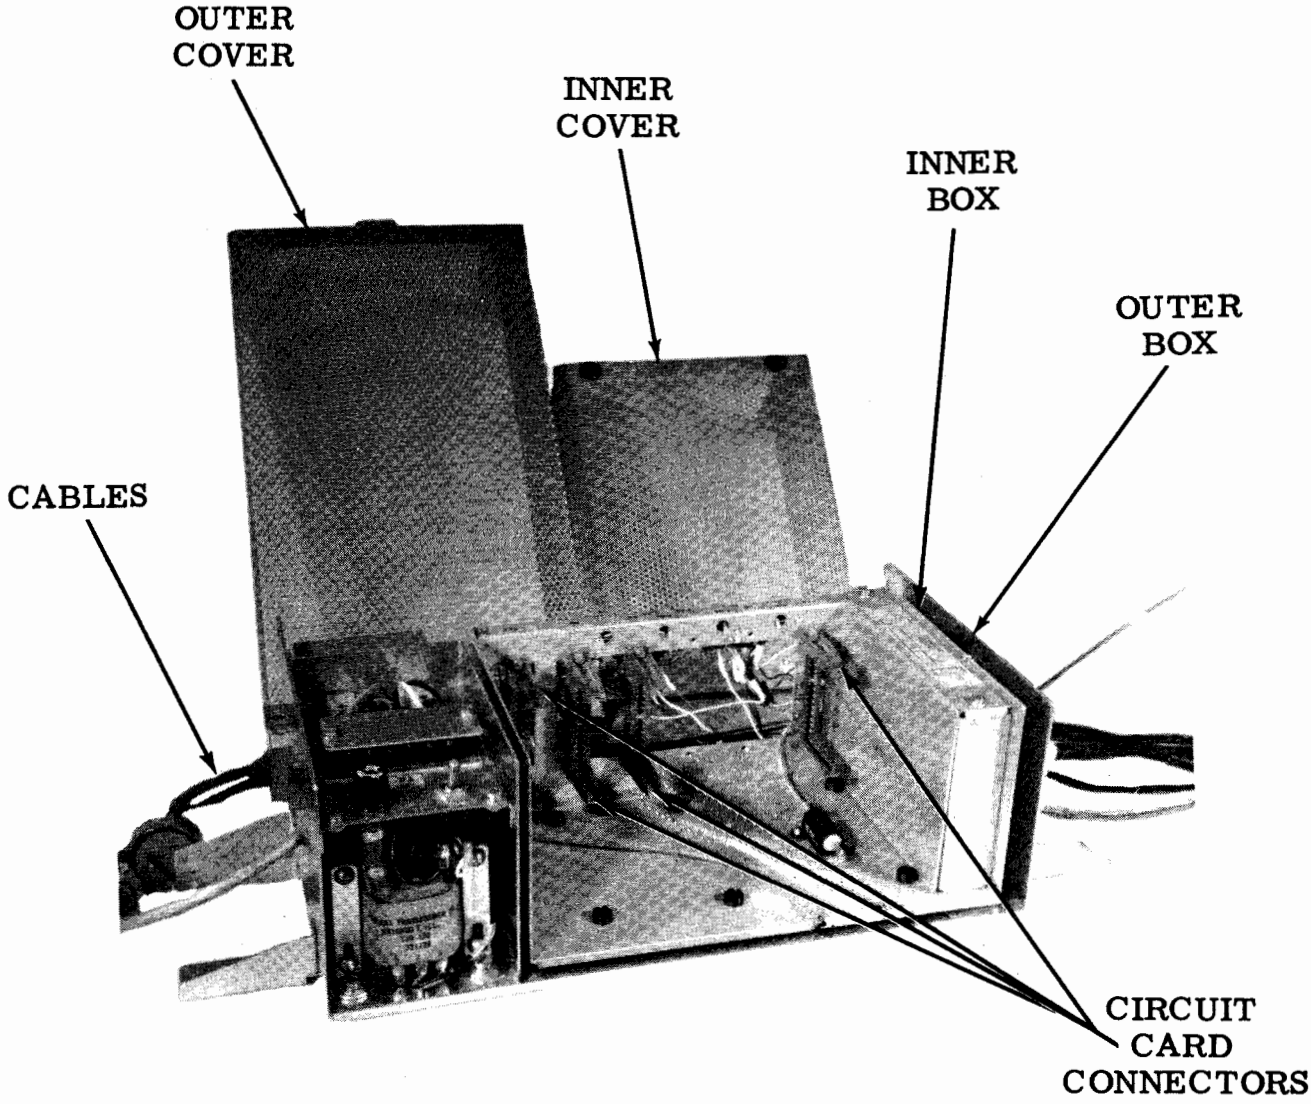
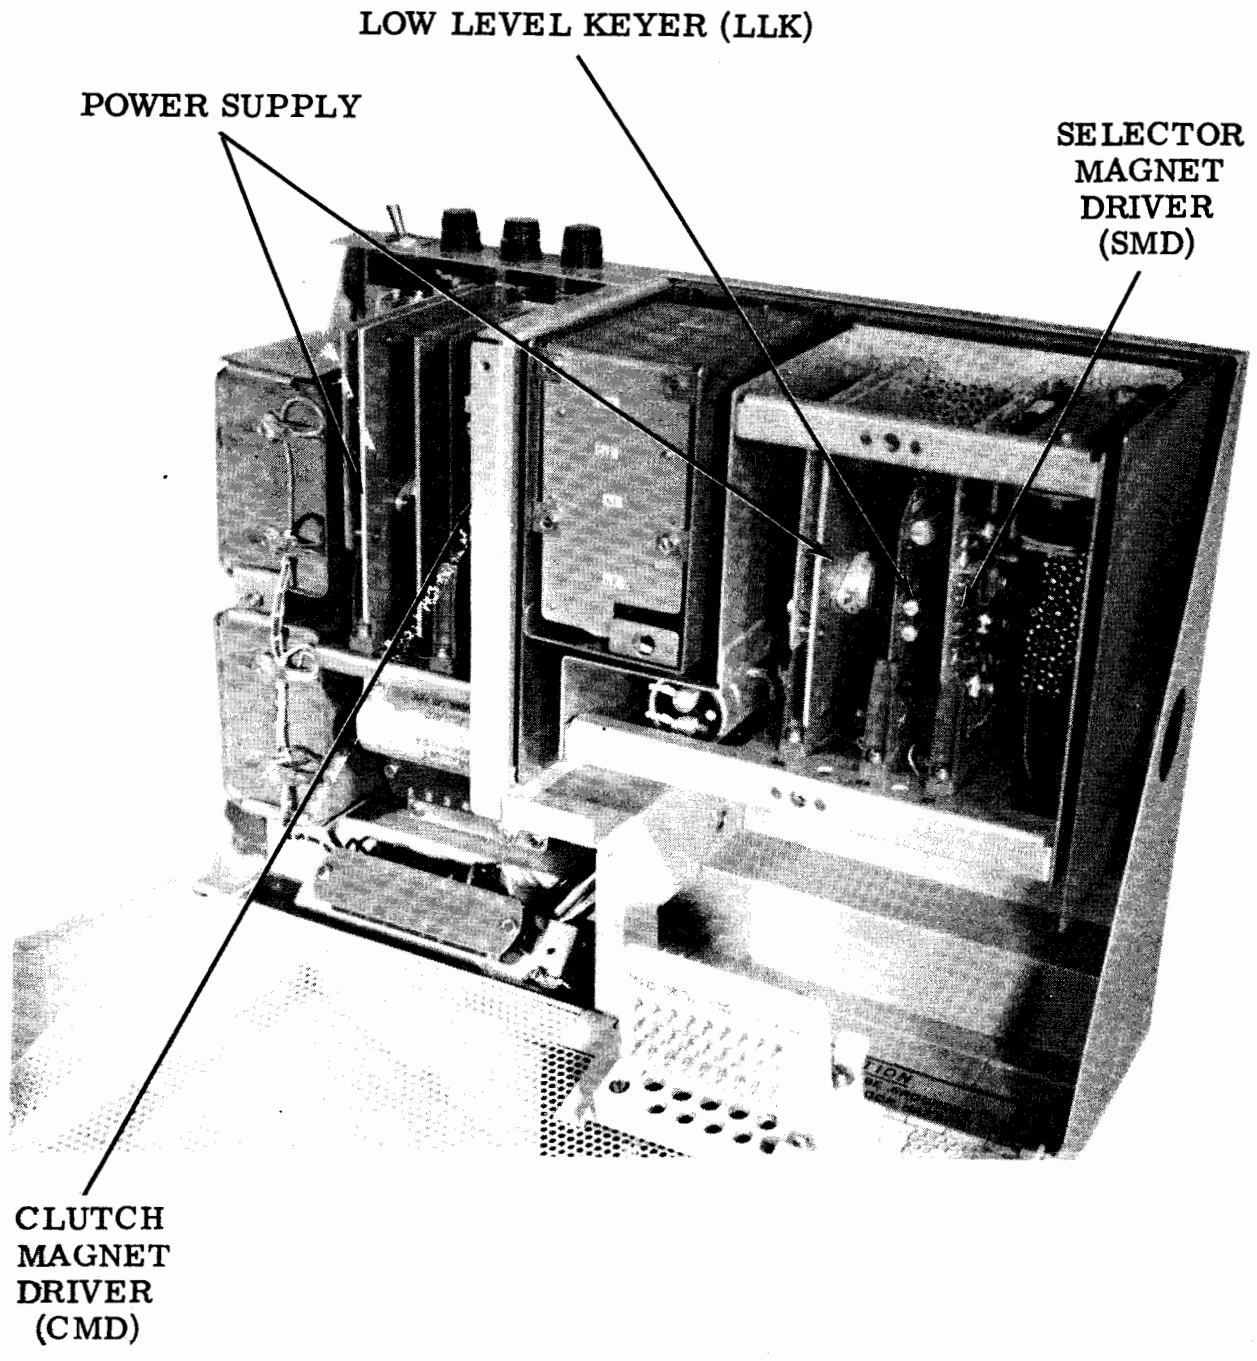

Figure 5 - ESA Showing Circuit Card Connectors
Figure 6 - ESA Showing Typical Circuit Cards
1.03 Thus, each ESA differs in accordance with the mounting provisions and the number of isolation relays and circuit card connectors provided (Figures 5 and 14). The circuit card connectors of each ESA provided for plugging in a certain combination of power supply cards, LLK cards, SMD cards, and CMD cards (Figure 6). These cards, however, are not an integral part of the ESA. For further information on the cards, refer to the specifications given in the following chart: